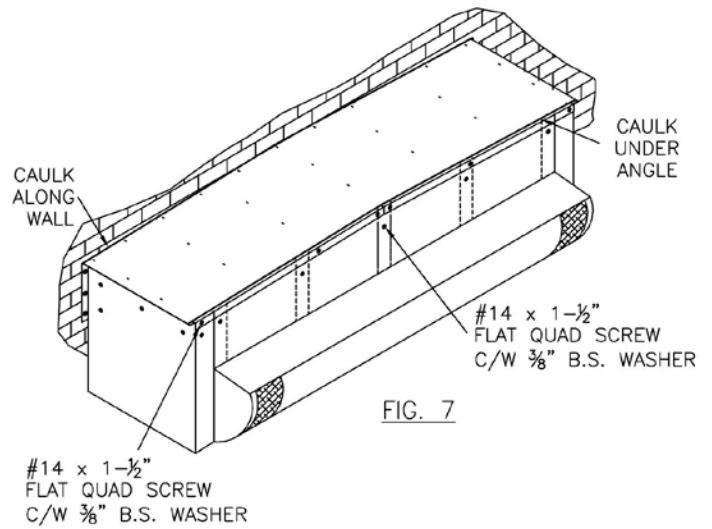

FIG. 7
- ii. Insert screws and 3/8" washer into holes (Fig. 7).